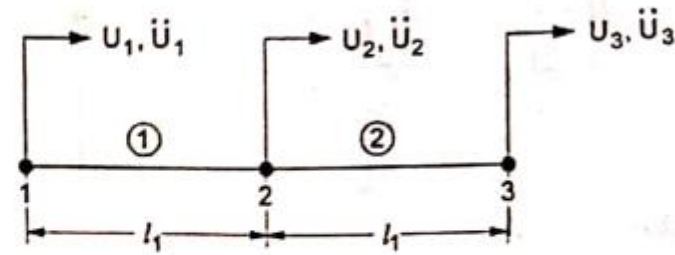

Fig. P. 6.9.5(b)
- The stepped bar is modelled with two bar elements, as shown in Fig. P. 6.9.5(b).